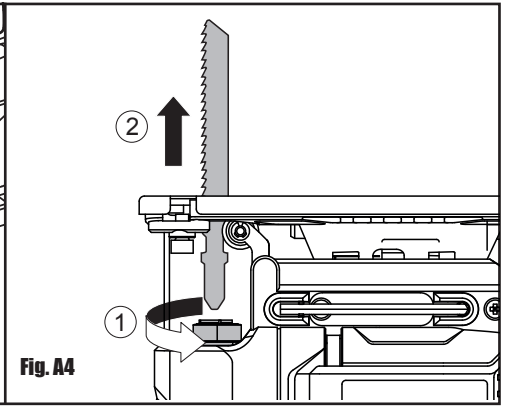

Fig. A4
- Removing the saw blade (See Fig. A4)